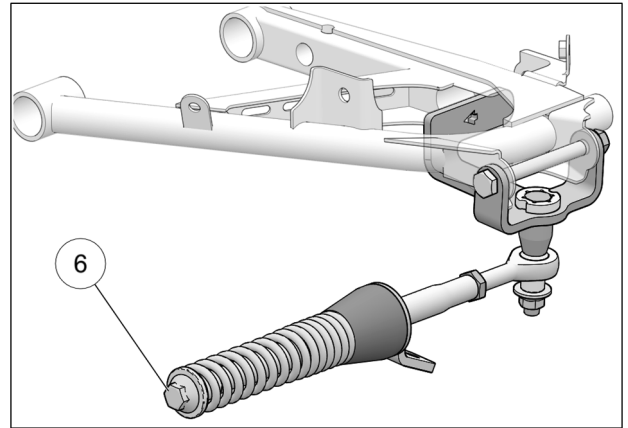

Fig. 11
10. Verify that spring assembly bolt (6) is tightened to the recommended torque specification:  $75 \text{ N}\cdot\text{m}$  [ $55 \text{ lb}\cdot\text{ft}$ ]. Refer to Fig. 11